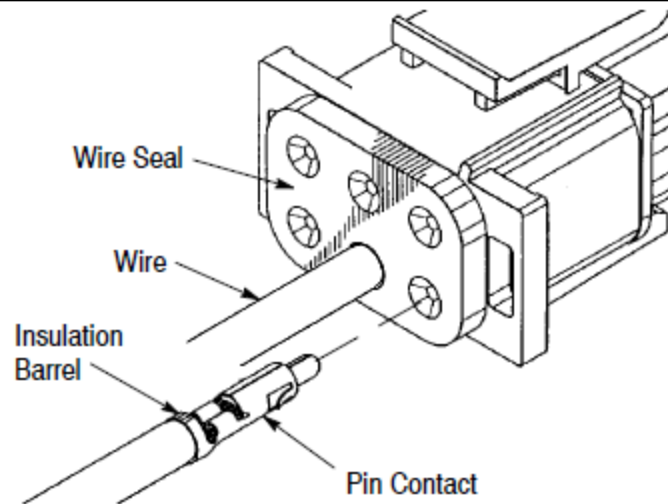

Figure 4
- Align the terminated pin or socket contact with appropriate contact cavity in the back (wire end) of the plug or cap housing. This alignment is to help ensure that the wire seal will not be damaged during the insertion process. Grasp the wire (close behind the contact insulation barrel) and push straight into the cavity until a click is heard, then pull back lightly on the wire to be sure the contact is locked in place. Pin and socket contacts may be inserted in either the plug or cap housing, or they may be intermixed in each housing to provide additional keying combinations. See Figure 4. Insertion Tool 455830-1 is available for inserting contacts.